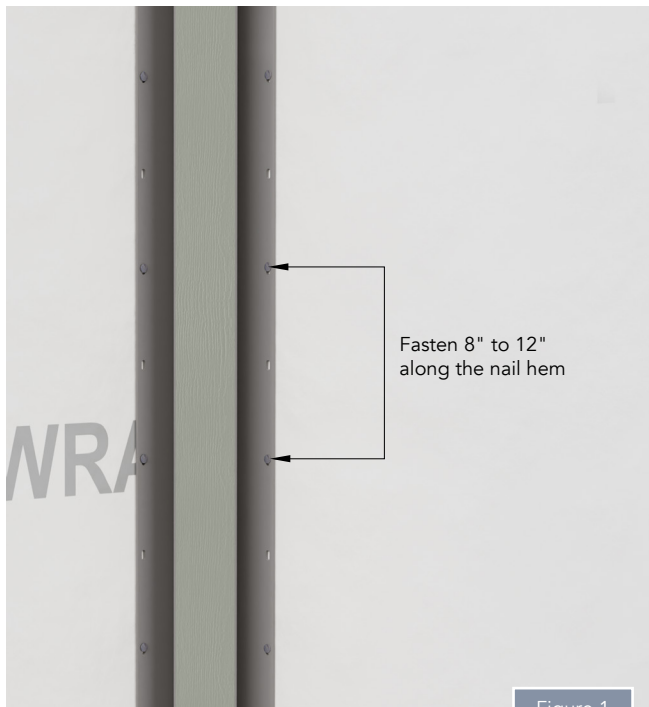

Figure 1
- Install using corrosion-free screws or nails along the nail hems on both sides of the inside corner reveal every 8" to 12" (Figure 1).